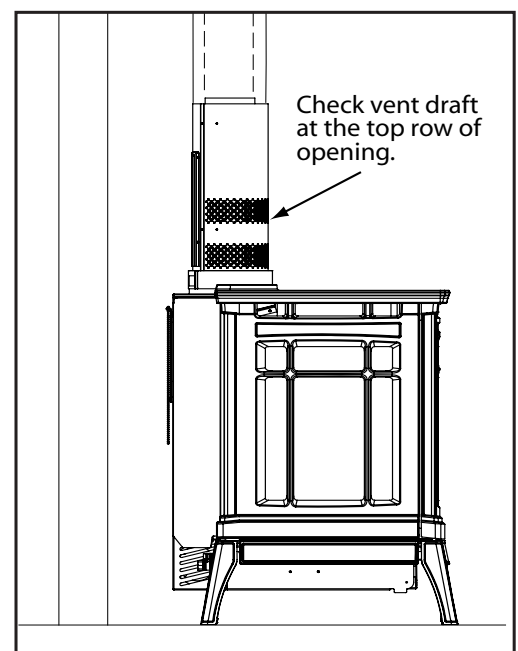

Figure 47: Draft test place.
4. After a minimum of 10 minutes operation, test the chimney draft with a smoke match at the top row of the pattern to confirm that there is adequate draft or 'pull' at the openings around the body of the Drafthood Adaptor, as shown in Figure 47.